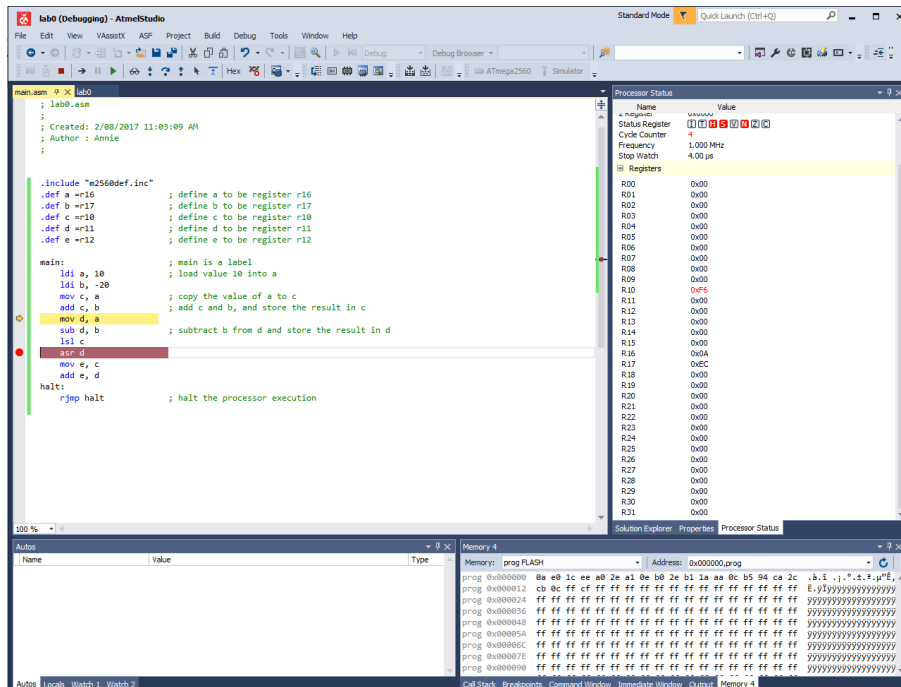

Figure 8: Setting Breakpoint
You can also run the code with breakpoints. To add a breakpoint, move the cursor to the instruction you want to stop on, and right click mouse and select Breakpoint→Insert Breakpoint. Figure 8 shows a breakpoint (indicated by the red dot) is added on the `asr` instruction.
Each AVR microcontroller has a Status REGISTER (named as SREG) that keeps 8 flags such as C, S and V. **The definitions of all 8 flags in SREG can be found in Mega2560 Data Sheet (page 14),** which is available on the course website (follow the link References → Documents → Mega2560 Data Sheet). These flags are dynamically updated during the program execution, and can also be observed in the Processor Status window. When a flag bit is set, the corresponding bit block is highlighted in red. For example, after the instruction “add c, b” is finished, bit 2 (N), bit 4 (S), and bit 5 (H) are set, as shown in Figure 8.